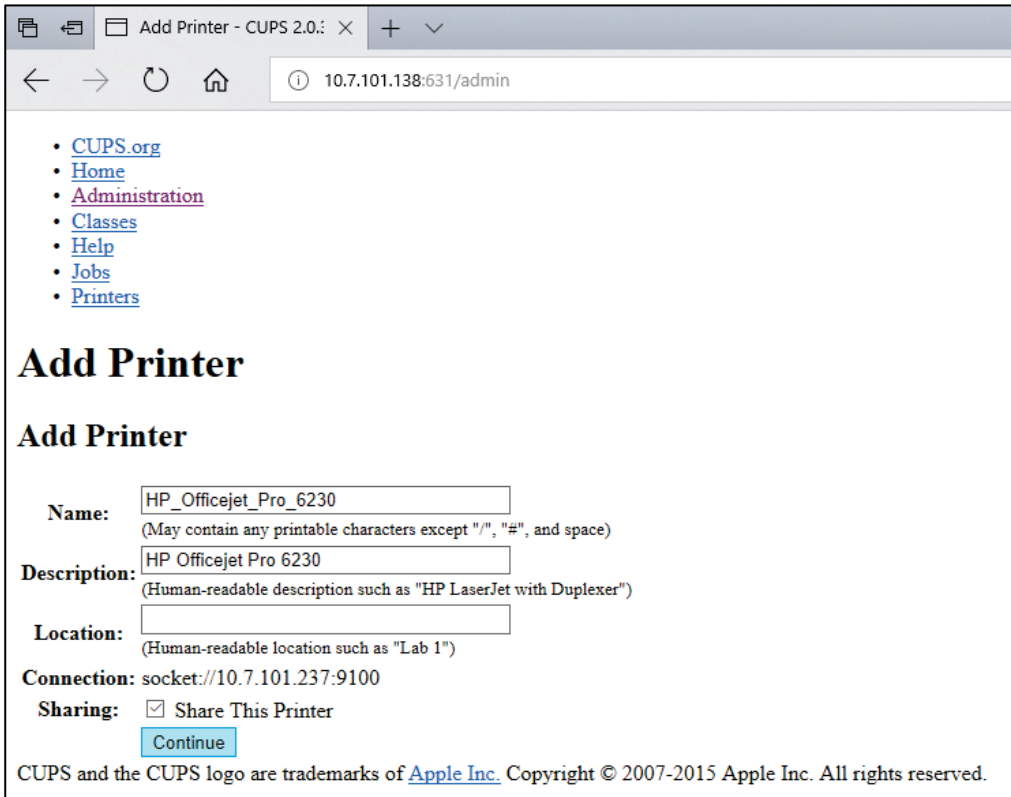

Figure 82. Add printer screen.
5. Select **Share this printer** and press **Continue** (Figure 82, next page).